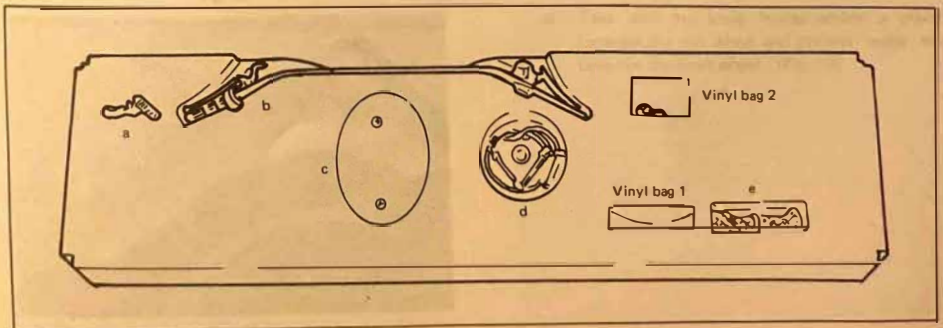

Fig. 12
- 2) Check the parts contained in the foam styrol case for quantity and damage. If any parts are found damaged, replace. (Fig. 12)